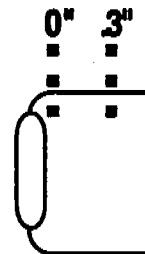

Figure 6-17 Cutting the Fuse Wires
4. Trim the wires on the fuses to 0.3"-0.35" from the bend in the wire. See Figure 6-17 below.